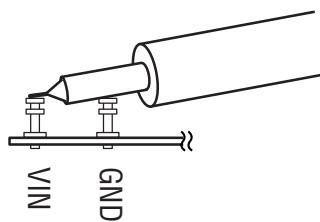

Figure 3. Measuring Input or Output Ripple
4. Using an oscilloscope probe with a short ground connection, see Figure 3, measure the peak-to-peak ripple voltage on VOUT1, VOUT2 and VOUT3.
7. Using an oscilloscope probe with a short ground connection, see Figure 3, measure the peak-to-peak ripple voltage on VOUT1, VOUT2 and VOUT3.